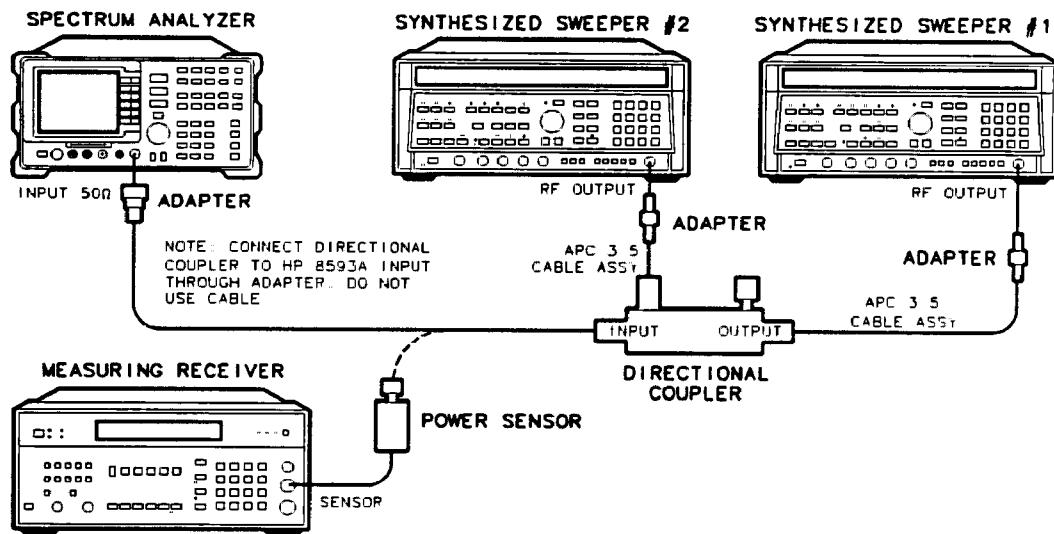

Figure 4-20. Third-Order Intermodulation Distortion Test Setup
32. Connect the equipment as shown in Figure 4-20 with the input of the directional coupler connected to the power sensor.